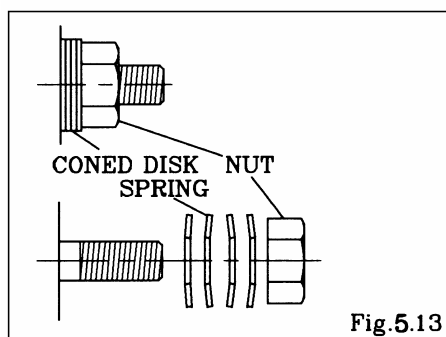

Fig.5.13
- Make sure that direction the coned disk springs. [Fig.5.13]